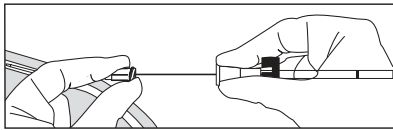

Figure 3
10. Firmly hold introducer needle hub in position and advance catheter, over spring-wire guide into vessel (refer to Figure 3).